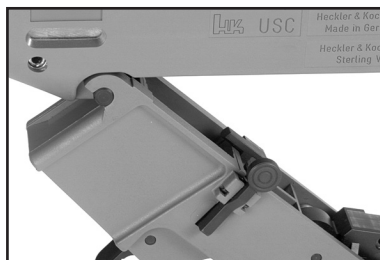

Fig. 32
2. From below, engage lower receiver (hammer between cocked and released positions) into the support bolts on the upper receiver and swivel it upward (Fig. 32).